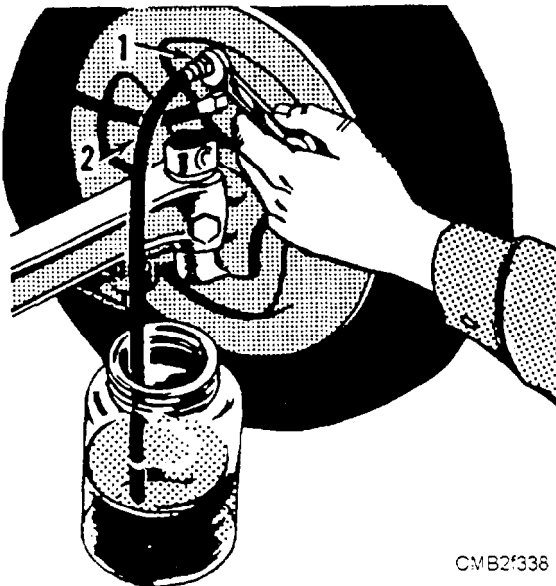

Figure 7-37.—Manual bleeding brake lines: (1) Bleeder screw; (2) Bleeder hose.
- Attach a short length of a rubber hose to the wheel cylinder bleeder screw and allow the other end of the hose to be submerged in a jar halfway filled with brake fluid (fig. 7-37).